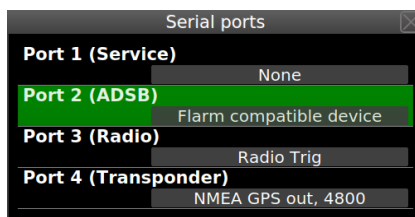

Figure 36: Serial port configuration window.
4. Select the *Serial ports* item. Figure 36 illustrates the window.
Configure the transponder RS-232 part to *NMEA* and set data rate to *4800*. Also, set Nesis port to *NMEA GPS out, 4800*, see Figure 36.